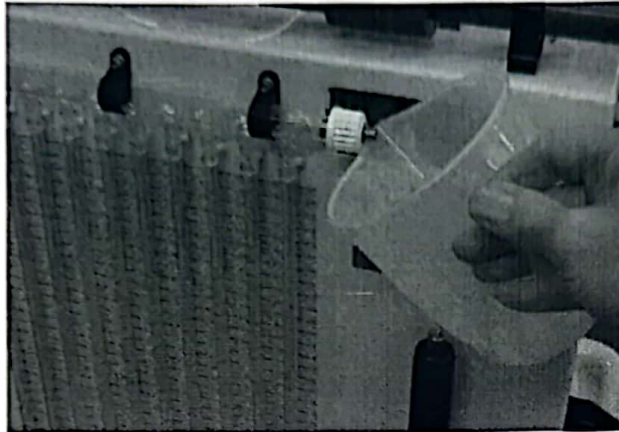

Figure 14 Use a Container (not supplied) to catch water
6. Hold a small container (not supplied) at the air valve of the manometer manifold, ready to catch any water that you may spill. See Figure 14.